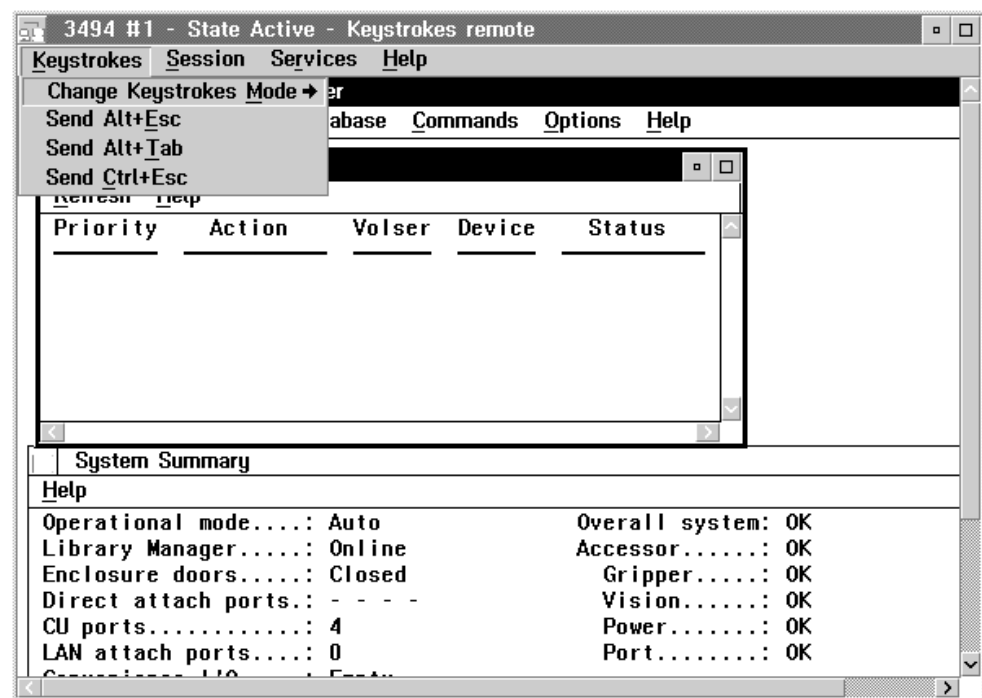

Figure 159. Remote Library Manager Console Window with Keystrokes Pull-Down Menu
The keystrokes mode, displayed on the title bar of the remote library manager console session window, determines whether the remote library manager console’s keyboard input and pointing device movements affect the remote library manager console or the 3494 library manager. The remote library manager console starts with *state active* and *keystrokes remote* displayed in the title bar. See Figure 159 on page 247.
You can send operating-system hot-key combinations to the library manager from the Keystrokes pull-down. See Figure 159.
Figure 159 shows the remote library manager console window with a view of the library manager's display during an active session. The remote library manager console user is working in *keystrokes remote* mode.
- Choose **Send Alt+Esc** from the Keystrokes pull-down on the remote library manager console session window (Figure 159 on page 247).
- Choose **Send Alt+Tab** from the Keystrokes pull-down on the remote library manager console session window (see Figure 159 on page 247).
- Choose **Send Ctrl+Esc** from the Keystrokes pull-down on the remote library manager console session window (see Figure 159 on page 247).